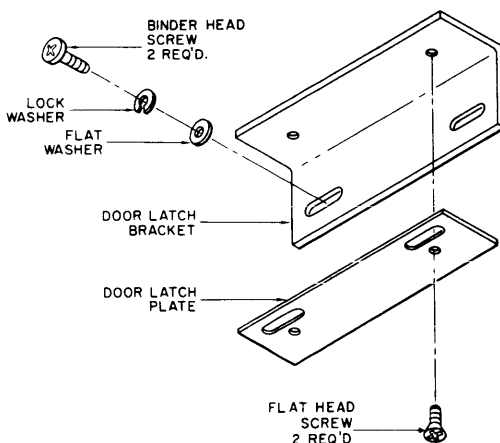

Figure 2-14. Door Latch Plates and Brackets, Installation Diagram
(29) Install exciter component drawer(s) into front of first frame.
(30) Installation of door latch plates and brackets:
- (b) Assemble door latch plates and brackets (refer to figure 2-14).
- (c) Mount the resultant assemblies on top and bottom, front and rear, of the transmitter (refer to figure 2-14).
(31) Installation of exterior covers and trim: